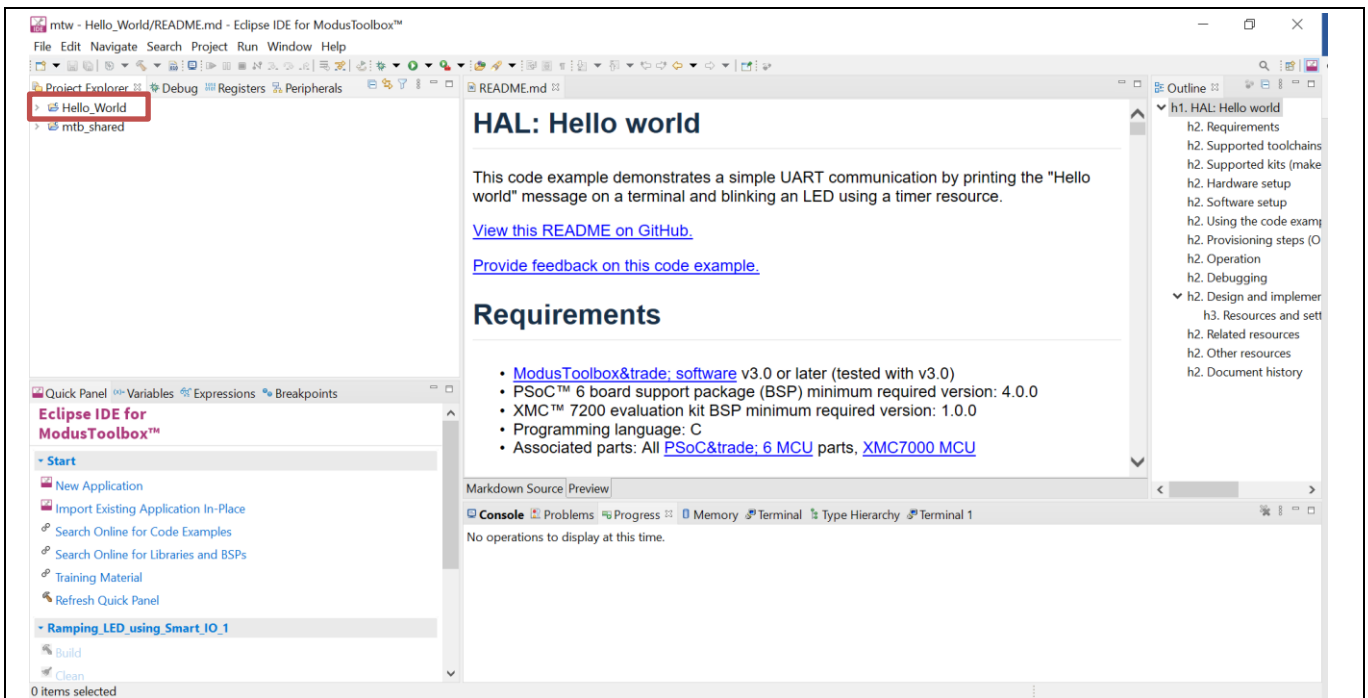

Figure 8 Create a new project
6. Wait for the import to complete. If no error message appears, the project will be available in your workspace (project explorer) as shown in Figure 8.